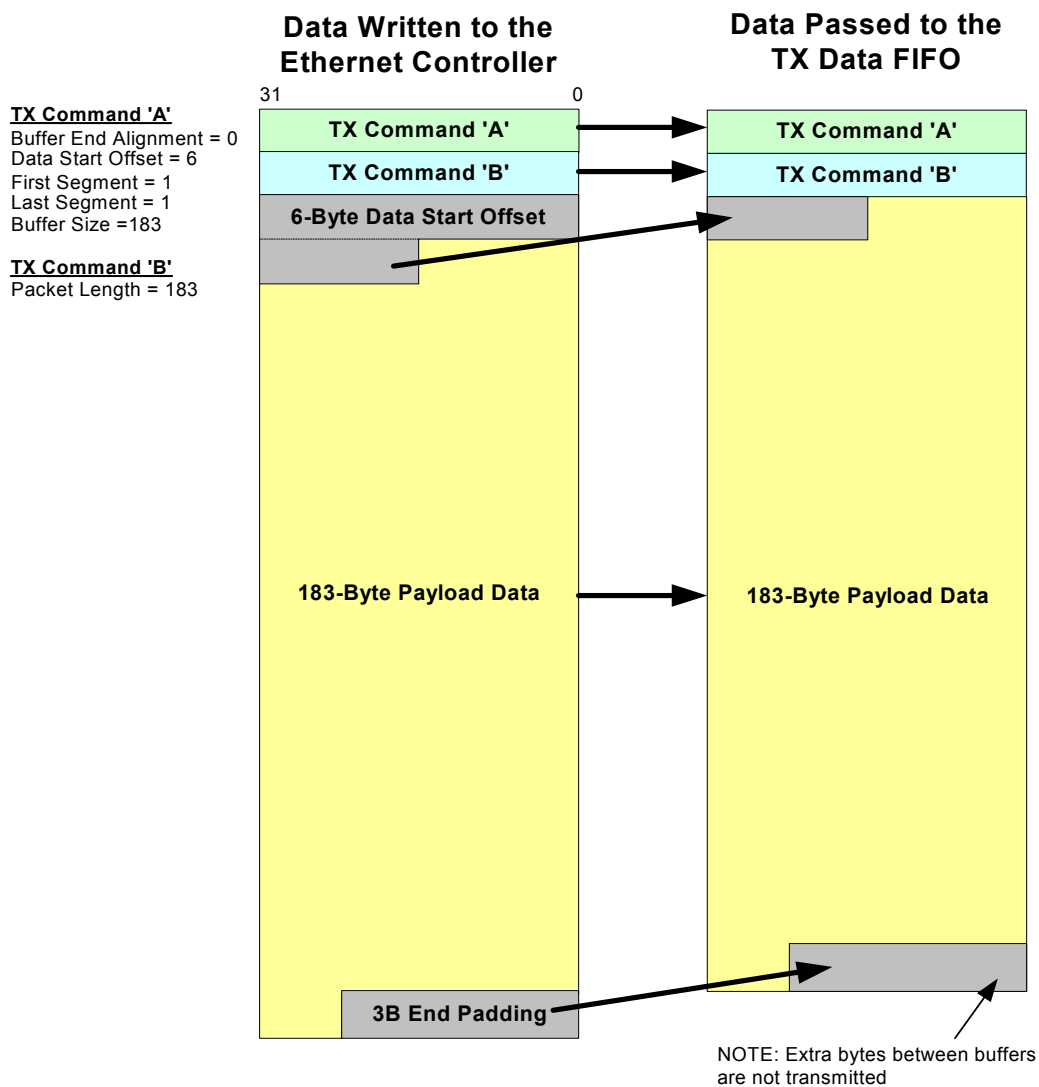

Figure 3.15 TX Example 2
**Note 3.15** The LAN9215 host bus interface supports 16-bit bus transfers; internally, all data paths are 32-bits wide. Figure 3.14 and Figure 3.15 describe the host write ordering for pairs of atomic 16-bit transactions.
Figure 3.15, "TX Example 2" illustrates the TX command structure for this example, and also shows how data is passed to the TX data FIFO. Note that the packet resides in a single TX Buffer, therefore both the FS and LS bits are set in TX command 'A'.